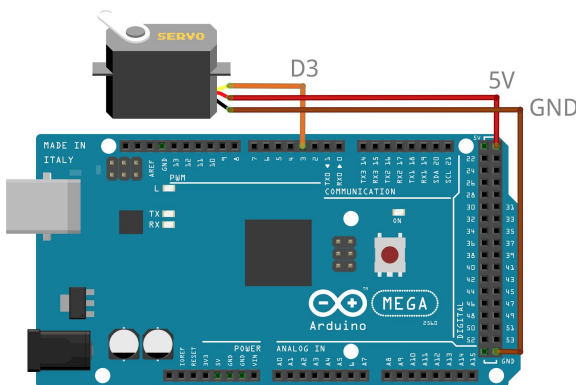

Figure 2.1
1. Hook up servo to the Arduino shown in **Fig 2.1**. Use Digital Pin 3 for the servo control.